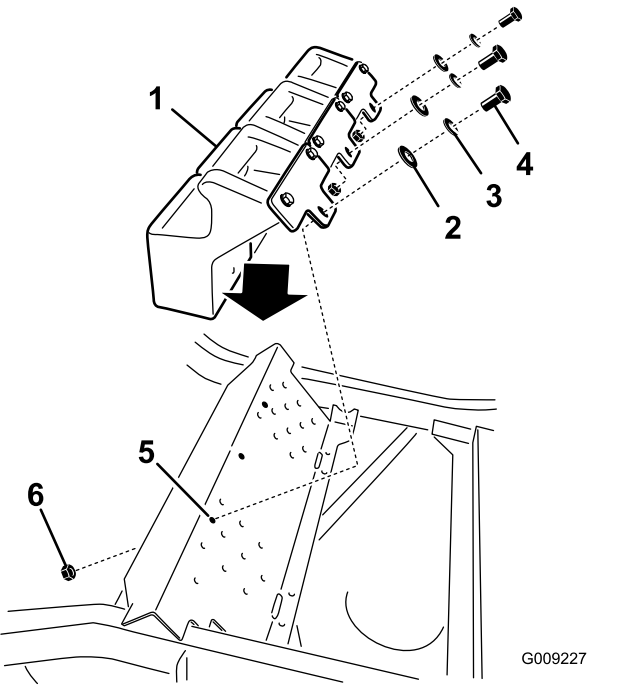

Figure 35
5. Install the front weights on top of the footrest (Figure 35).
nuts (3/8 inch) and 6 flat washers (3/8 inch) as shown in Figure 35.